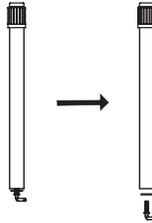

Fig.1
- 1 Unpack the packing box and check the parts by referring to the part figure. From the column unscrew the plastic nut. (Fig.1)